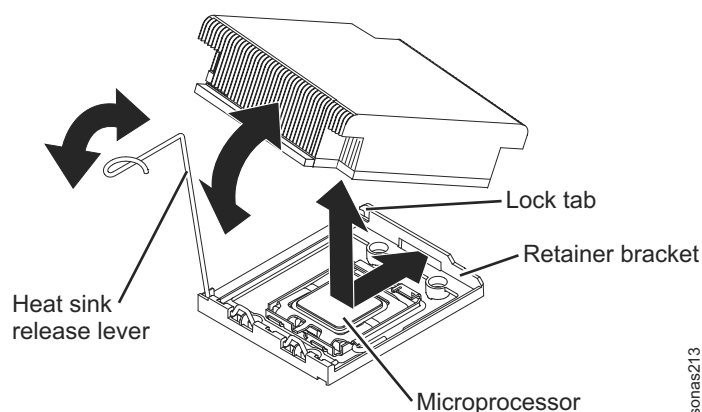

Figure 40. Heat-sink release lever
5. Open the heat-sink release lever to the fully open position. See Figure 40.